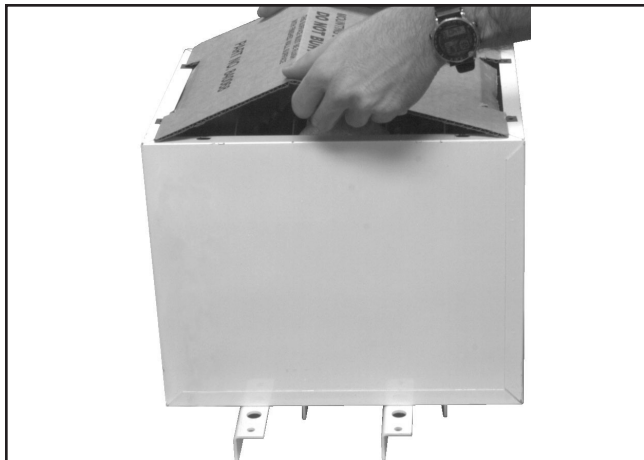

Figure 1
2. Remove dust cover from mounting box (Figure 1). Save for later use.